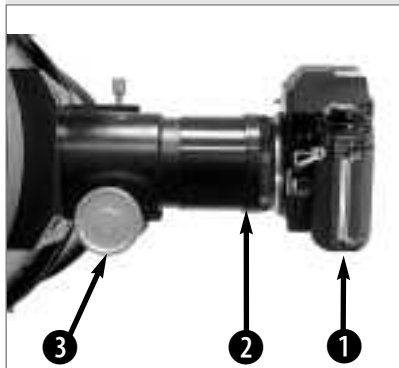

Fig. 22a: LXD75-Series T-Adapter attached to focuser assembly and camera.
Photography through an LXD75 Schmidt-Newtonian and Newtonian Reflector telescope requires an LXD75-Series T-Adapter (supplied) attached to the telescope (**Fig. 22a**). Through-the-telescope photography is possible with any 35mm camera body with a removable lens. In this way, the telescope effectively becomes the lens of the camera.
Unthread the focuser extension tube (**Fig. 22b**) from the focuser drawtube to remove from the focuser assembly. The T-Adapter (**2, Fig. 22a**) threads onto the focuser, followed by the camera body (**1, Fig. 22a**).
2. Focus the image with extreme care. While observing the subject through the camera's reflex viewfinder, turn the telescope's focus knob (**3, Fig. 22a**) to achieve the sharpest possible focus. Note that some 35mm cameras may have an optional focusing screen (available from the manufacturer) for use with a long telephoto lens. This screen provides a brighter and clearer image to focus, and is highly recommended.